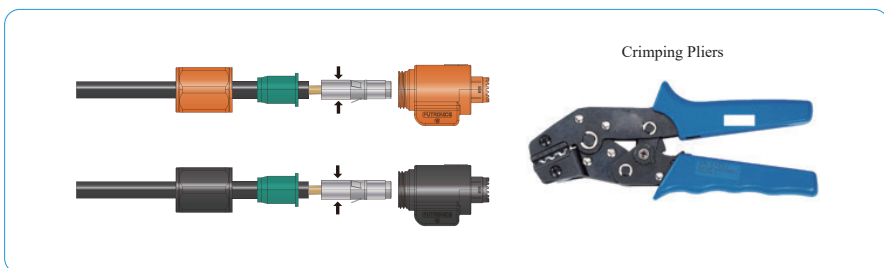

Figure 4-19
4) Insert the battery cable through the battery connector nut, then into the metal terminal. Press the terminal with a professional crimping plier (pull back the cable with some power to check if it's tight enough), as shown in Figure 4-19: